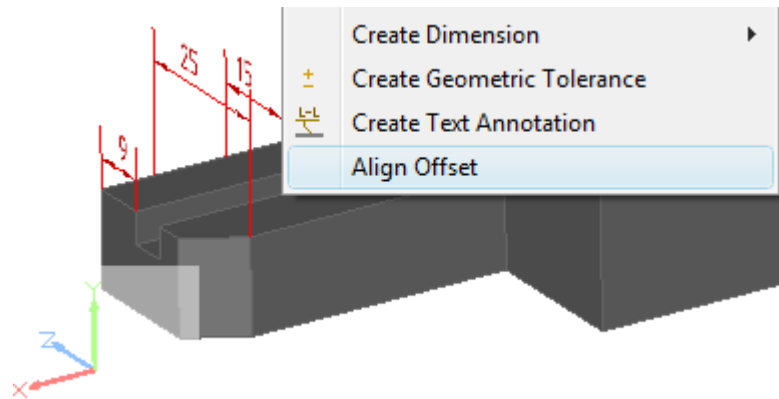

Figure 3. Align Offset item selected in context sensitive menu
- Right click and select **Align Offset** item in the appeared context sensitive menu (see Figure 3).